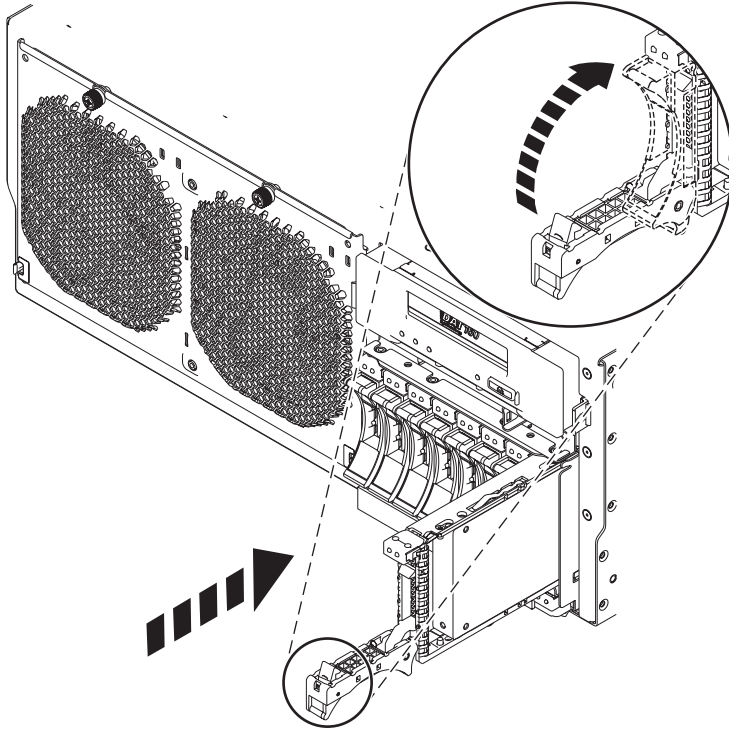

Figure 1. Installing the disk drive in the system
7. When the identify LED turns on solid, slide the drive all the way into the system or an expansion unit, and push the drive handle in until it locks. See Figure 1 on page 6.